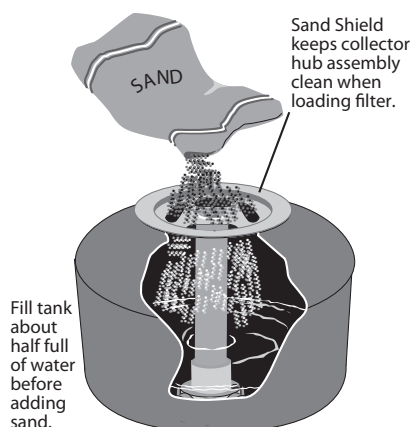

Figure 4
1. To keep sand out of collector assembly, place plastic sand shield over top of collector tube before pouring sand into filter (See Figure 4).